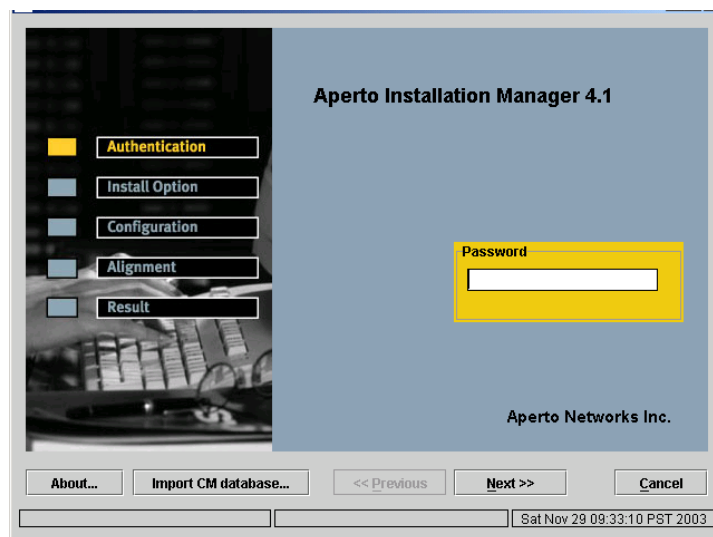

Figure 5-2 AIM Authentication Window
2. Double-click on the Aperto Installation Manager icon on the PC's desktop. This will cause the Authentication window to be displayed, as shown in *Figure 5-2*. Note the buttons at the bottom of the window.